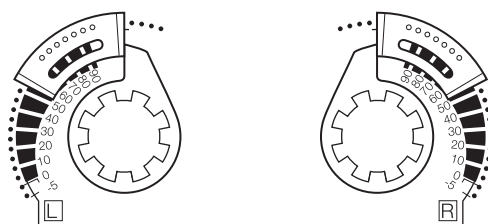

Figure-10 Positioning the Rotation Limiter.
3. Place the AM-689 rotation limiter on the actuator so that it either makes contact with, or is as close as possible to, the edge of the indicator. See Figure-10.